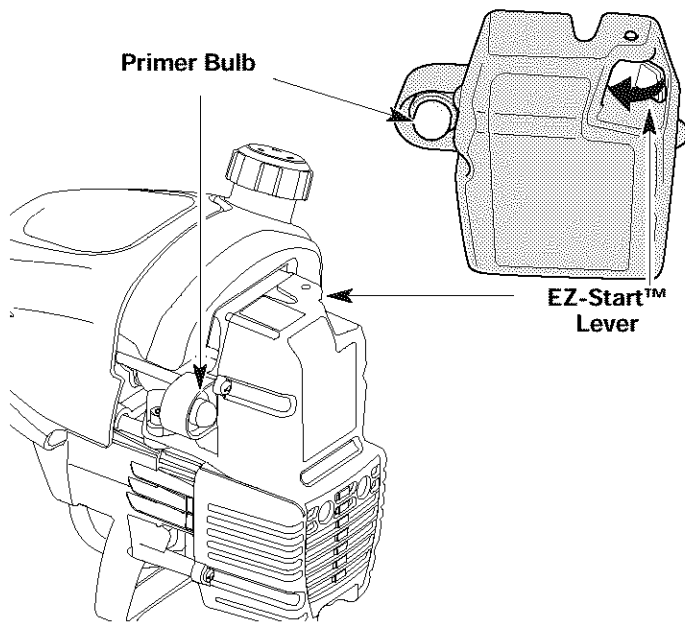

Fig. 7
3. Fully press and release the primer bulb 10 times, slowly, until **FUEL IS VISIBLE IN THE PRIMER BULB** (Fig. 7). If you can't see fuel in the bulb, press and release the bulb as many times as it takes before you can see fuel in it.
4. Push the EZ-Start™ Lever to the left until it clicks and locks into place (Fig. 7).
6. When the engine starts, squeeze the throttle control for 5 to 10 seconds in order to warm up the engine. The EZ-Start™ Lever will click off automatically (Fig. 7).